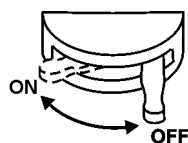

Figure 60. Battery Switch (OFF)
6. Set the **battery ON/OFF switch** (Figure 60) to the "OFF" position.